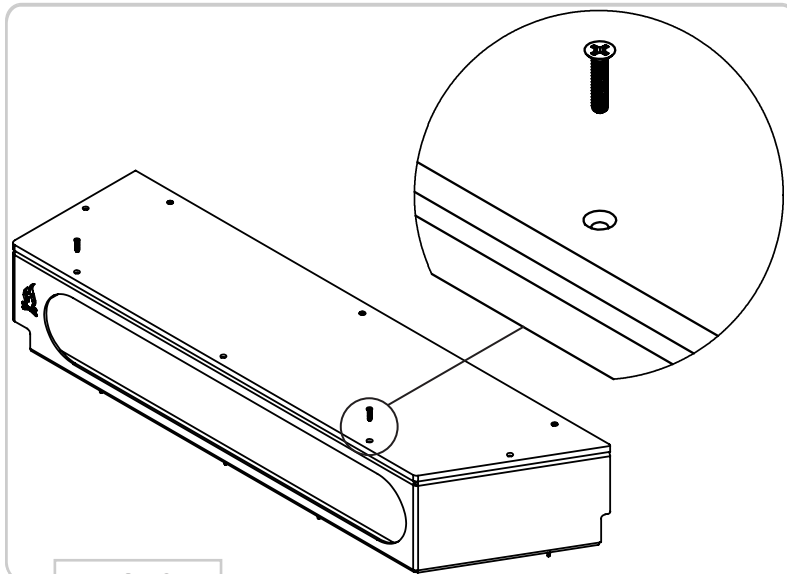
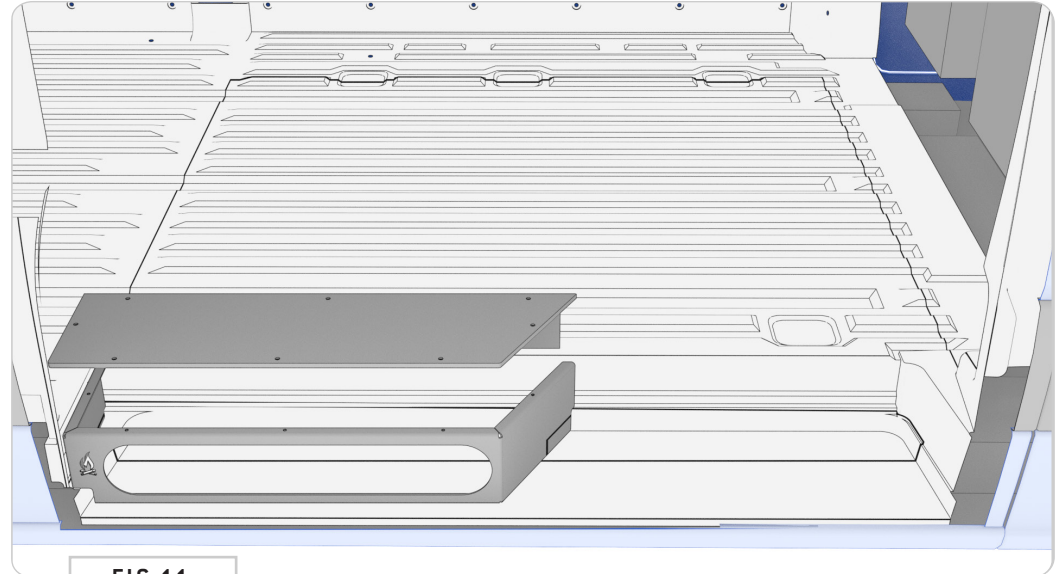

FIG 12
FIG 11
4.1 Loosely Attach Support Bracket Assembly to Flooring Extension: Take the **Support Bracket Assembly** and lay it down on top of the **Flooring Extension** (FIG 11). Insert (2) **6-32 X 0.625 Flat Head Phillips Drive Screws** in the locations shown in FIG 12 to ensure alignment of the pre-drilled holes.